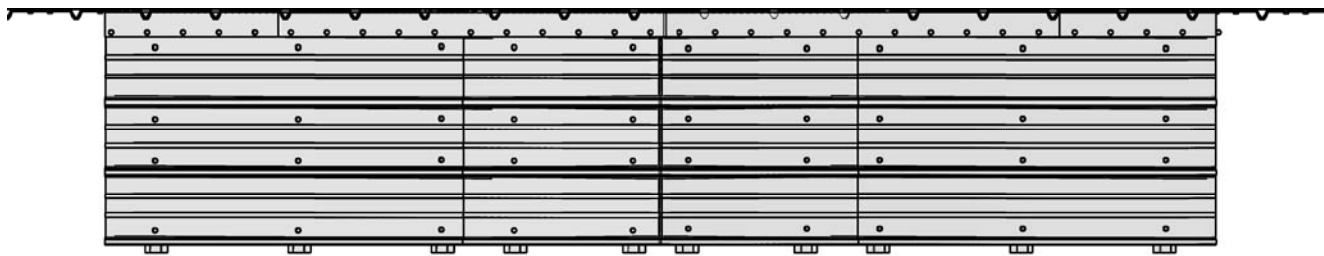

FIGURE 18
3. Place the Ridge Roof Sheet (C-041-00) back on the canopy. Center it to make sure it is under the Transition Flashing and centered on the ridge. Using the Structural Screws (F-051-00) fasten to the Hat Purlins per **Figure 18**. Using the roll of Tape Sealant, apply to the last major roof panel corrugation under the Transition Flashing from eave to eave. Remove paper and secure the Transition Flashing to the Roof Sheets with Stitch Screws (F-051-00) 6" on center.